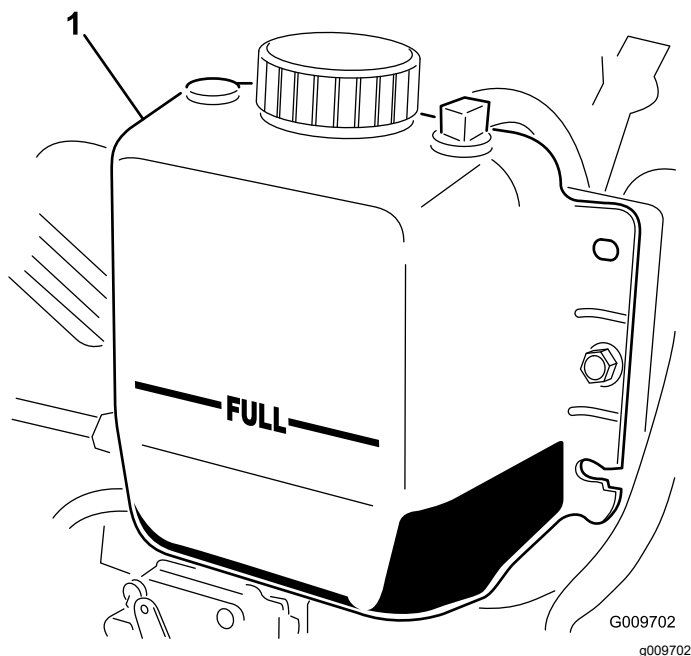

Figure 35
**Note:** The radiator should be filled to the top of the filler neck and the expansion tank filled to the Full mark (Figure 35).